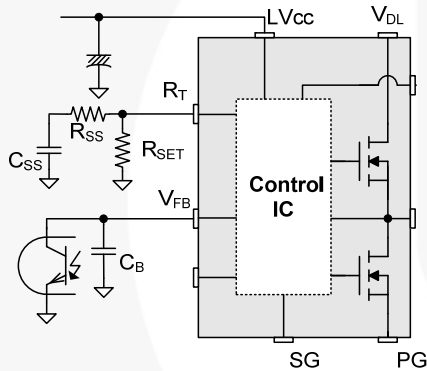

Figure 24. External Soft-Start Circuit
4. Soft-Start: At startup, the duty cycle starts increasing slowly to establish the correct working conditions for transformers, inductors, and capacitors. The voltage on the output capacitors is progressively increased to smoothly establish the required output voltage. Soft-start time is internally implemented for 15 ms (when the operating frequency is set to 100 kHz .) In addition, to help the soft-start operation, a capacitor and a resistor would be connected on the R_T pin externally, as shown in Figure 24. Before the power supply is powered on, the